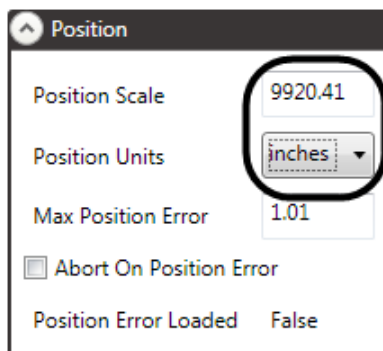

Figure 69
8. Enter the result from the previous step into the **Position Scale** field and then select the appropriate units from the **Position Units** drop-down menu (Figure 69).